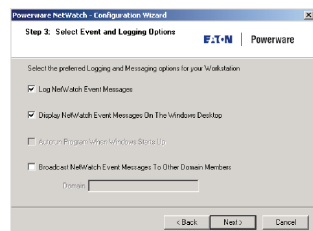

Figure 18. Verify Configuration Settings
11. The Event and Logging Options dialog opens (see Figure 18). Select **Next**.